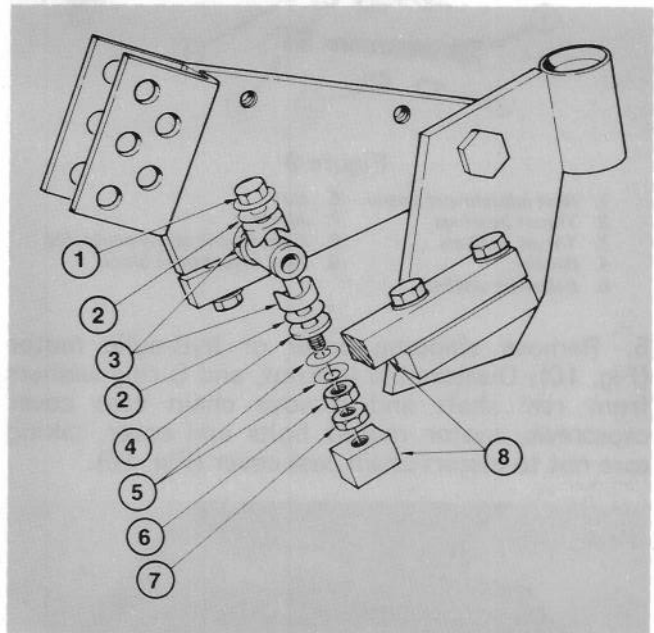

Figure 14
8. Install bedbar-bedknife assembly; refer to Servicing The Bedbar-Bedknife Assembly, item 8, page 4.
9. Assemble adjusting screws, thrust bearings, thrust washers, etc. to reel shaft. Install the belleville washers inverse to one another (Fig. 14).
2. Remove the bedbar-bedknife assembly; refer to Servicing The Bedbar-Bedknife Assembly, item 1-3, page 3-4.
4. Disassemble adjusting screw assembly from left end of reel shaft (Fig. 14).